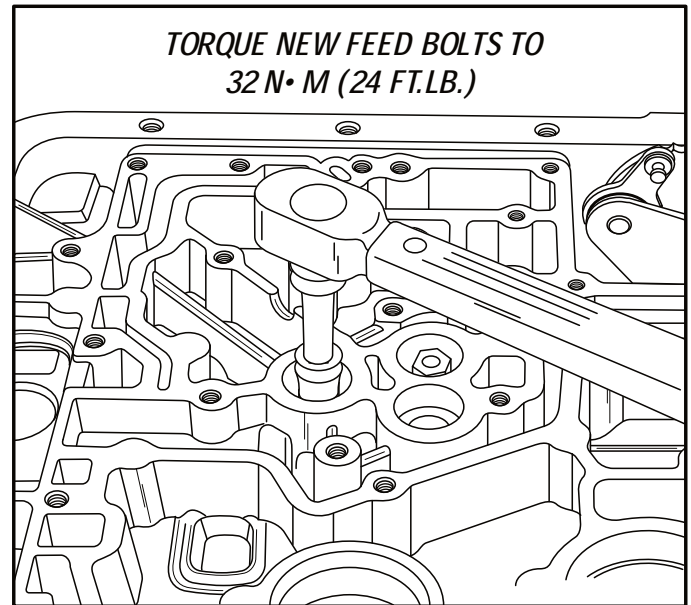

Figure 178
29. Rotate the transmission so that the pan surface is facing up, as shown in Figure 178.
30. Now, torque the new center support bolts to, 32 N•m (24 ft.lb.), as shown in Figure 178.